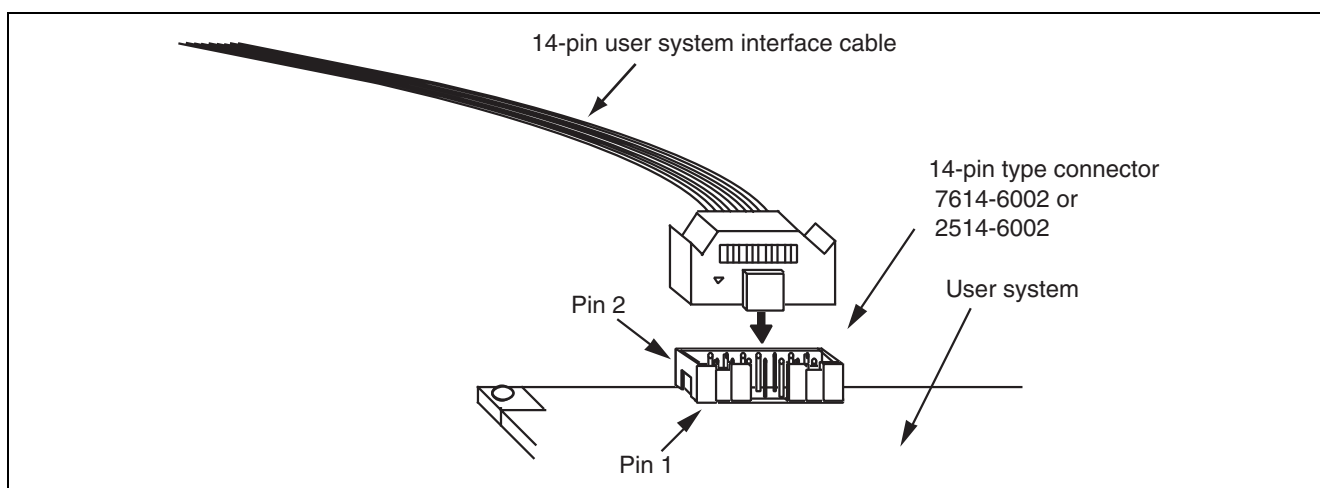

Figure 2.1 Connecting the User System Interface Cable to the 14-Pin Connector of the E1 Emulator
Notes: (1) If you are using the 14-pin connector, do not mount other components with a height exceeding 10 mm within 5 mm of the connector on the user system. Figures 2.1 and 2.2 show examples of the connection between a user system interface cable of the 14-pin type and an E1, and an example of connection of the cable with the 14-pin connector to the E20 via the 38-pin to 14-pin conversion adapter.